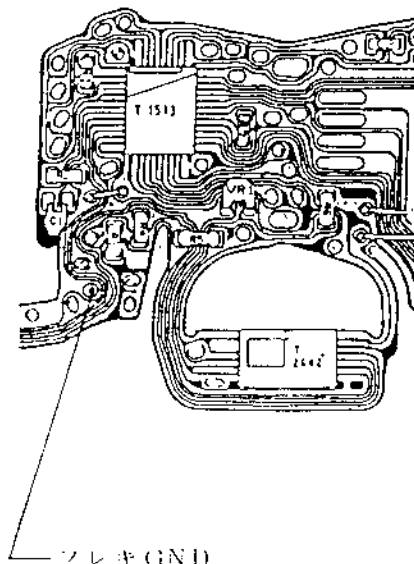

Fig. 6
- o Leads (1) to (9) are soldered to through holes in the flexible PC board; when unsoldering them, be careful to avoid damaging the board.
- o The GND point for the flexible PC board (Figure 6) is a through hole; be careful to avoid damaging the board when soldering or unsoldering this joint. Be sure to unsolder this connection when removing the front plate.
<p data-bbox="196 304 516 340">Front panel removal</p>  <p data-bbox="344 823 446 856">Fig. 6</p> <p data-bbox="256 1003 820 1134">After removing the four leads indicated in Figure 6, disassemble according to the procedure shown on page 14.</p>	<p data-bbox="987 214 1453 247">Front Panel Installation</p> <ul data-bbox="873 277 1507 598" style="list-style-type: none"> <li>o Install the front plate with the shutter open and the mirror up.</li> <li>o After installing the front panel, replace washer (6) with one selected to provide a clearance of no more than 0.03 mm between the front panel reinforcing panel and the body.</li> </ul> <p data-bbox="971 625 1453 661">Front Panel Reinforcement</p> <p data-bbox="873 688 1469 976">In order to increase the flange to focal plane precision, a new design is used for the mirror box. In addition to the screws in the front panel, four screws are installed vertically at the rear of the mirror box (Two of the four also serve to hold the eyepiece lens in place).</p>